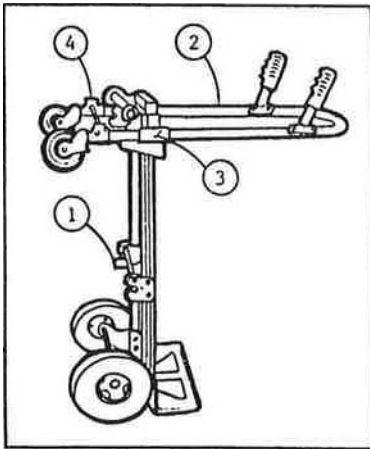

FIGURE 1
1. Press release bar (1) to release "U" handle assembly (2). Lift "U" handle assembly up and push through pivot sockets (3) so that it is parallel to the floor (Figure 1).
2. Using a 9/16" wrench and a 7/8" box end wrench, remove one bolt from each end of the "U" handle. Pull out swivel casters and remove axle spreader (4).
4. Slide "U" handle out through the pivot sockets to remove from the hand truck. Remove the 1/4"-20 x 1-7/8" pan head machine screw from the single grip handle and slide this handle off of the "U" handle. Slide the new single grip handle onto the "U" handle so that it is angled toward the "U" as indicated in Figure 1.